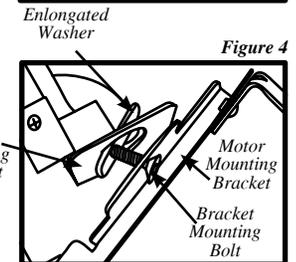

Figure 4
4. Slide the **Elongated Washer** on the **Motor Mounting Bracket** into the large hole of the **Roma Mounting Bracket** by inserting the long end of the **Elongated Washer** first followed by the shorter end. *Figure 4*